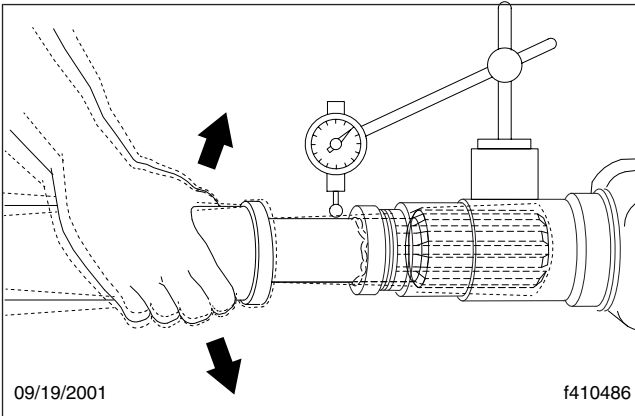

Fig. 3, Examine the Slip Yoke Spline
3. Examine the slip yoke spline for excessive radial movement. See Fig. 3. If excessive radial looseness exists between the slip yoke and the tube shaft, replace the slip yoke and the tube shaft. For instructions, see **Group 41** of the *Business Class® M2 Workshop Manual*.